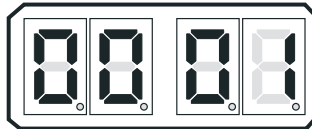
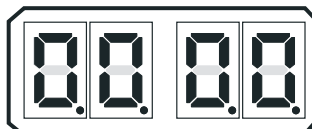

Figure 10-12: Example Display Station A/D’s Transfer Button Depressed for Stations 1 - 4
Figure 10-13: Display Station A/D/s Transfer Button Depressed for Station 5
- B For Stations 1 - 4 when the Transfer Button is depressed, the 0 which represents that remote station, will change to a 1 as shown in Figure 10-12: Example Display Station A/D’s Transfer Button Depressed for Stations 1 - 4. For Station 5 when the Transfer Button is depressed, all four decimal points will light as shown in Figure 10-13: Display Station A/D/s Transfer Button Depressed for Station 5